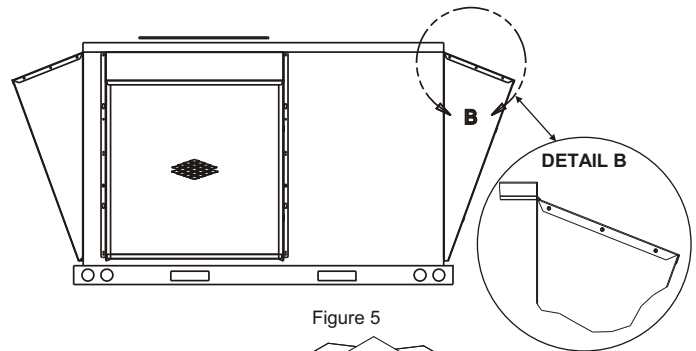
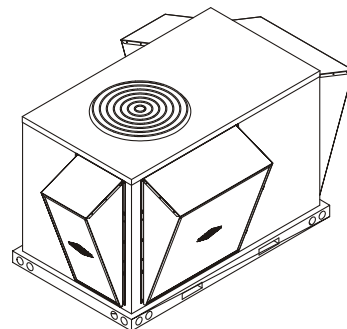

Figure 5
Figure 6
Place the back flange of the Top Panel (A) under the rooftop unit top panel. See Figure 5. This may require assistance on the larger guards. Make sure guard is centered over the opening. Guard Assembly should rest on top of base frame rail and under top flange. See Figure 6. Secure to unit using #10-16 x 1/2 Hextek Screws. If panel lines up with unit take holes remove screw from unit and reattach.